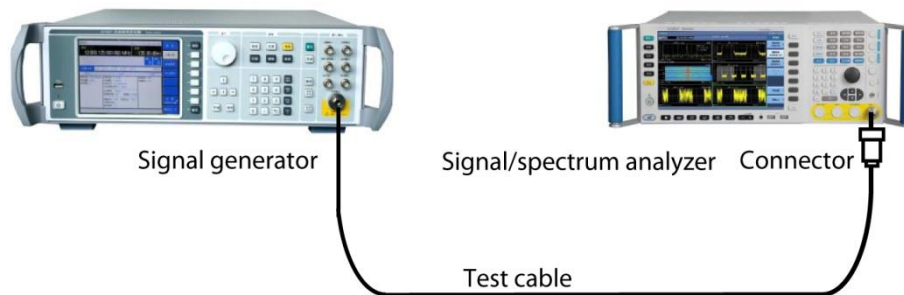

Fig. 4.76 Connection Settings of Harmonic Distortion Measurements
Step 2. Connect the radio frequency output port of the signal source to that of the analyzer. As shown in Fig. 4.76: